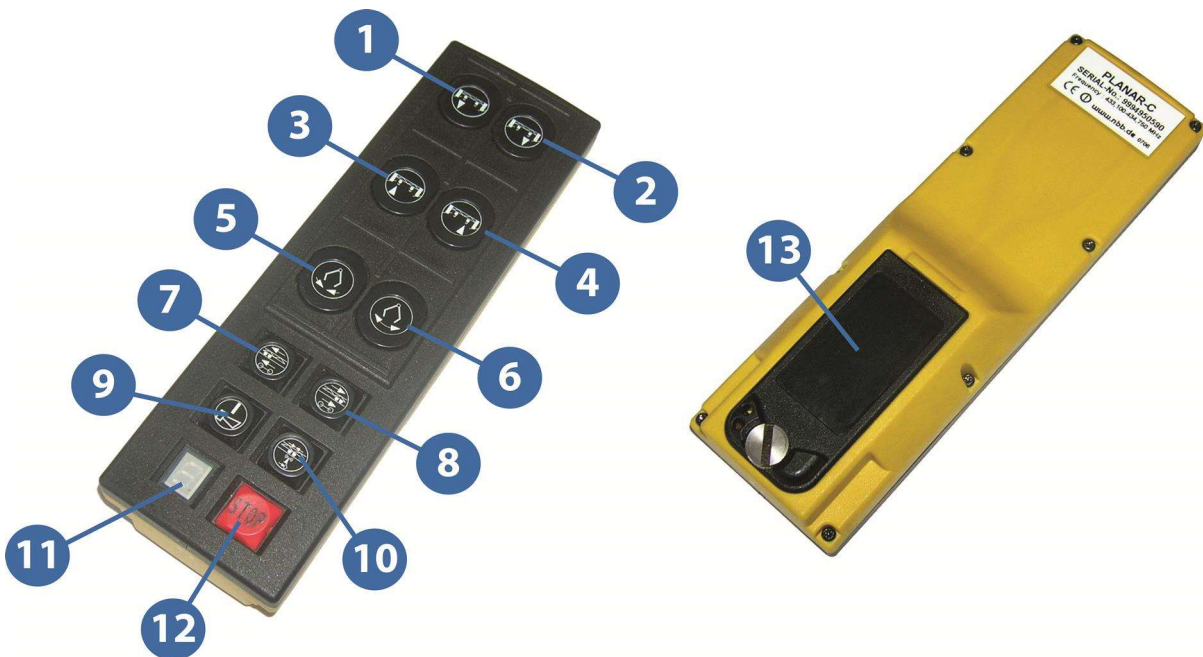

Figure 14
- The radio remote control is composed of two main parts, one portable transmitter (Figure 14) and one receiver mounted on the machine (Rep.1 Figure 29 on page 50).